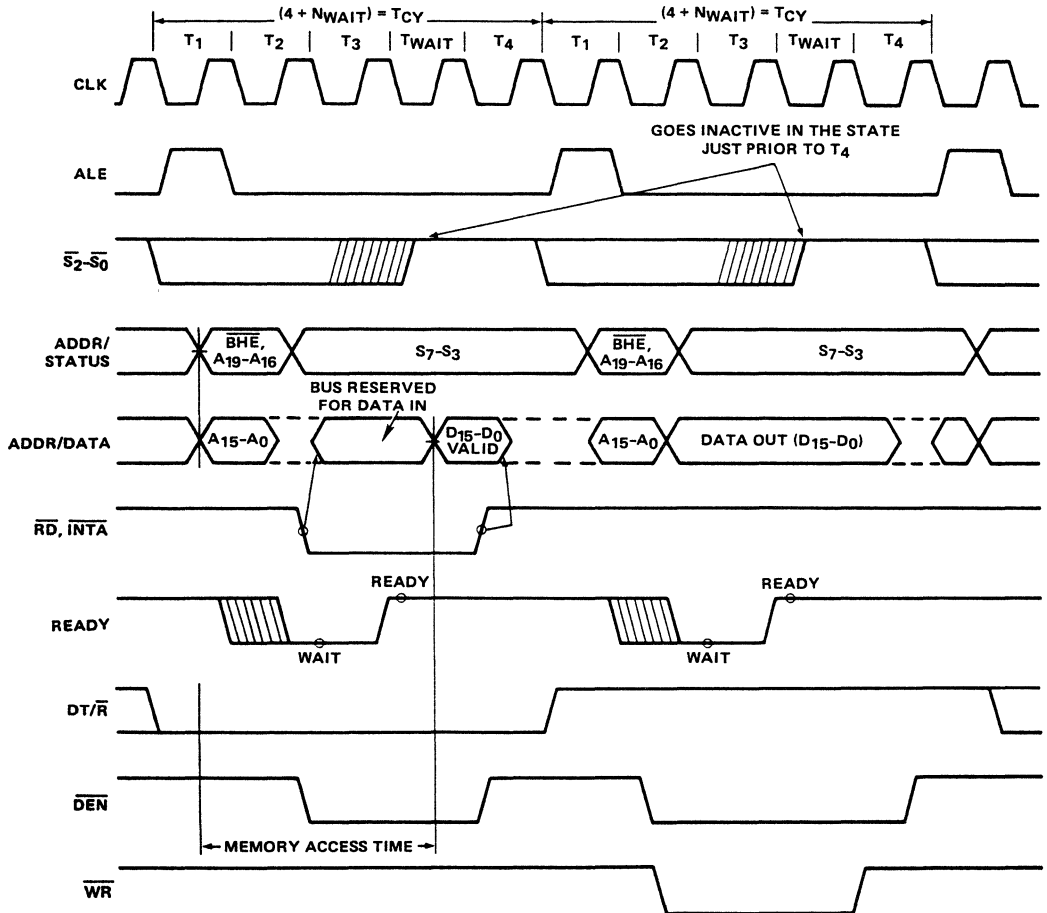
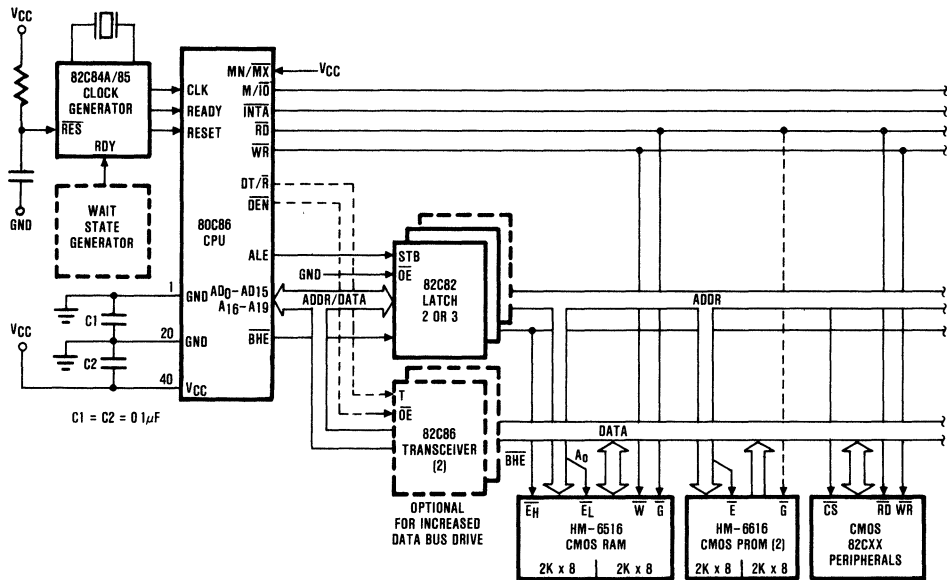

FIGURE 3. BASIC SYSTEM TIMING
FIGURE 6A. MINIMUM MODE 80C86 TYPICAL CONFIGURATION
The demultiplexed mode requires two 82C82 latches (for 64K addressability) or three 82C82 latches (for a full megabyte of addressing). An 82C86 or 82C87 transceiver can also be used if data bus buffering is required. (See Figure 6a.) The 80C86 provides DEN and DT/R to control the transceiver, and ALE to latch the addresses. This configuration of the minimum mode provides the standard demultiplexed bus structure with heavy bus buffering and relaxed bus timing requirements.
Each processor bus cycle consists of at least four CLK cycles. These are referred to as T1, T2, T3 and T4 (see Figure 3). The address is emitted from the processor during T1 and data transfer occurs on the bus during T3 and T4. T2 is used primarily for changing the direction of the bus during read operations. In the event that a "NOT READY" indication is given by the addressed device, "Wait" states (TW) are inserted between T3 and T4. Each inserted wait state is the same duration as a CLK cycle. Periods can occur between 80C86 driven bus cycles. These are referred to as "idle" states (TI) or inactive CLK cycles. The processor uses these cycles for internal housekeeping and processing.
Typical system configurations for the processor operating in minimum mode and in maximum mode are shown in Figures 6A and 6B, respectively. In minimum mode, the MN/MX pin is strapped to VCC and the processor emits bus control signals (e.g. RD, WR, etc.) directly. In maximum mode, the MN/MX pin is strapped to GND and the processor emits coded status information which the 82C88 bus controller uses to generate MULTIBUS™ compatible bus control signals. Figure 3 shows the signal timing relationships.